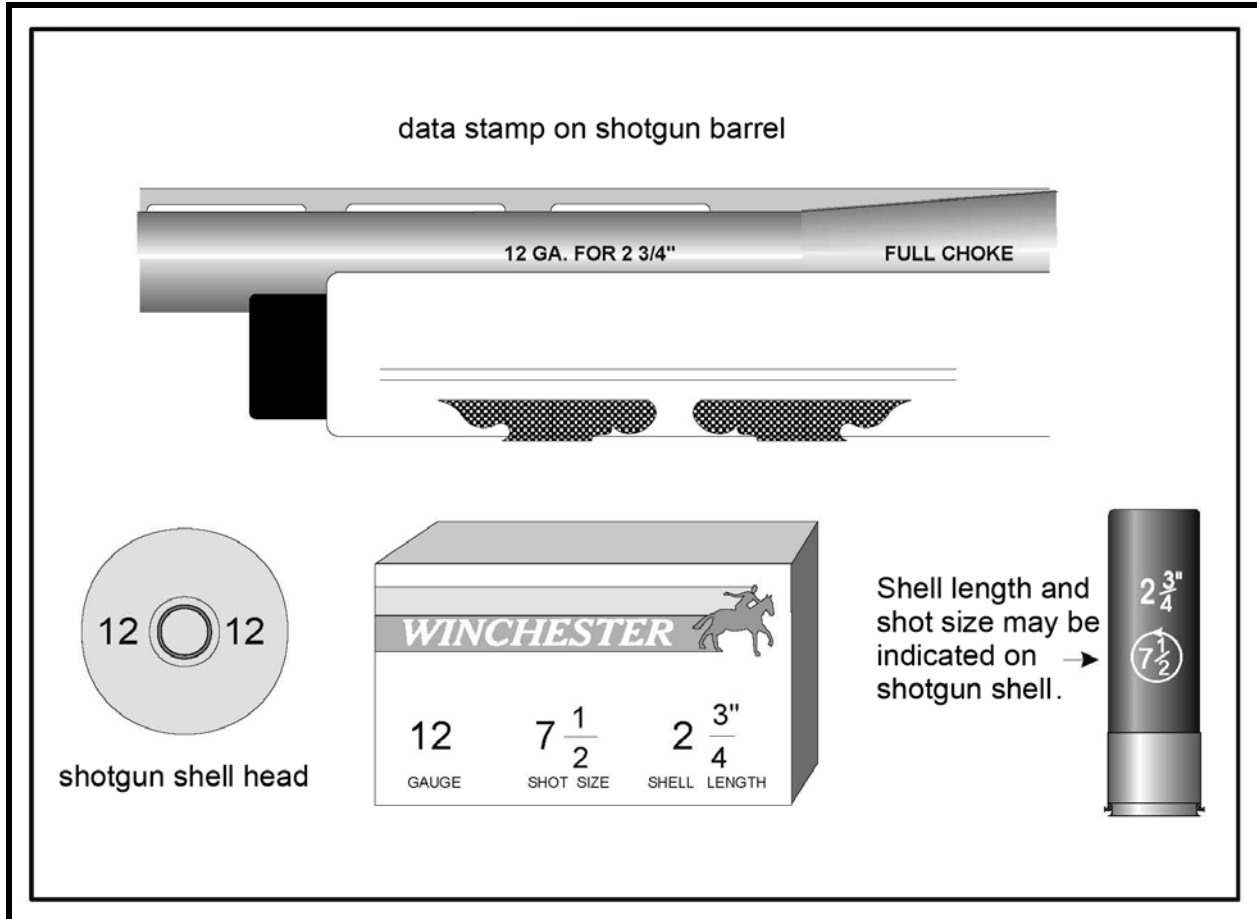

Figure 35. Data Stamp on Shotgun Shell
- a. The following information is stamped on the barrel or action (Figure 35) of many modern shotguns.